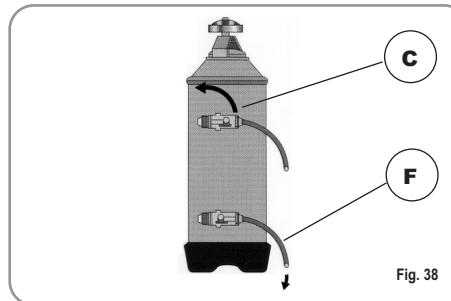

Fig. 38
- 2) Put the cap back on and reposition lever C moving it towards the left (Fig. 38) and allowing tube F to discharge the salty water until it has been eliminated and the water becomes fresh again (about half an hour).